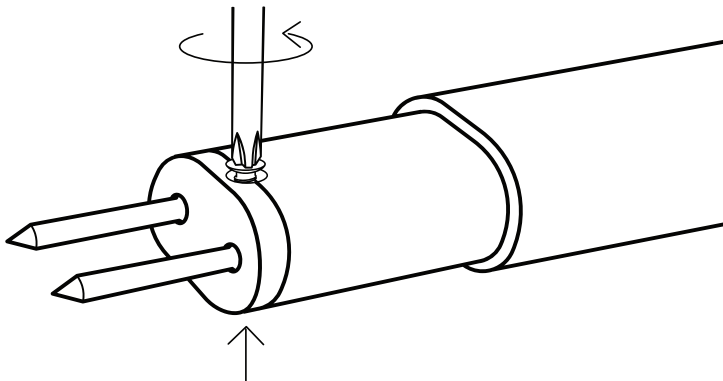

Figure 16 Remove screws
1. Remove both Phillips head screws at either end of SOLYX GO tines module (Figure 16).